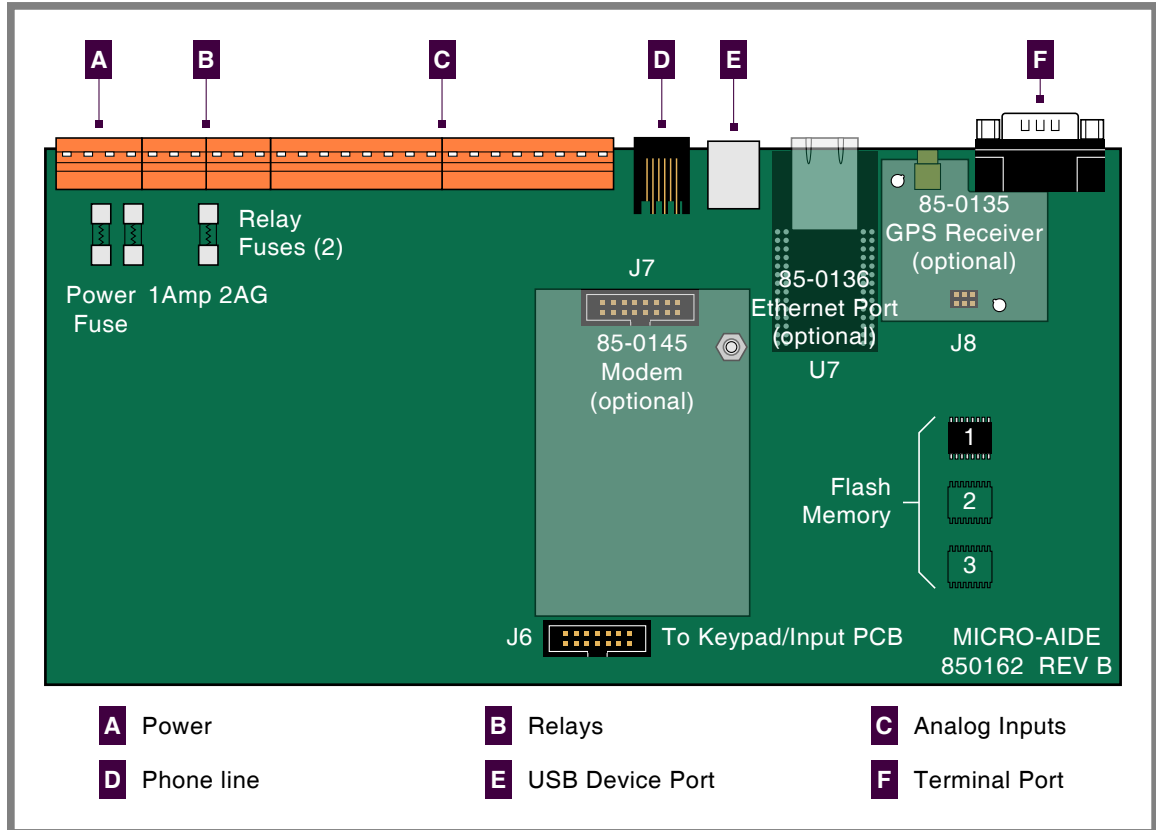

Figure 7: Processor PCB
There are three fuses mounted on the Processor PCB. The fuses are designed to protect the input power source and the contacts of the output relays. Each are rated at 1 A and conform to the 2AG size standard. Before replacing a fuse the cause of the blown fuse should be ascertained and cleared if possible. The fuses are illustrated in Figure 7 on page 75.
Generally, the GPS Receiver is ordered at the time the recorder is purchased and is pre-installed at the factory. If the receiver was not previously ordered, it can be installed by the user. To install the receiver follow the steps listed in the following. The GPS Receiver PCB is illustrated in Figure 7 on page 75.
3. Locate the 6-pin female socket labeled "J8" near the top-right edge of the Processor PCB. The socket is illustrated in Figure 7 on page 75.
Generally, the modem PCB is ordered at the time the recorder is purchased and is pre-installed at the factory. If the modem was not previously ordered, it can be installed by the user. To install the modem follow the steps listed in the following. The modem is illustrated in Figure 7 on page 75.
2. Locate the 16-pin female socket labeled "J7" near the center of the Processor PCB. The socket is illustrated in Figure 7 on page 75.
- Locate the 56-pin female socket labeled "U7" along the upper edge of the Processor PCB. The socket is illustrated in Figure 7 on page 75.